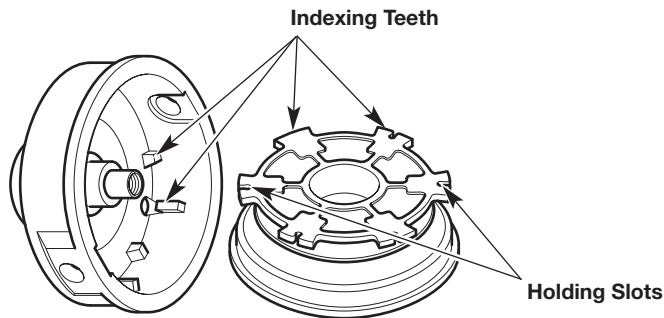

Fig. 20
6. Check the indexing teeth and holding slots for wear (Fig. 20). If necessary, remove burrs or replace the inner reel and outer spool.